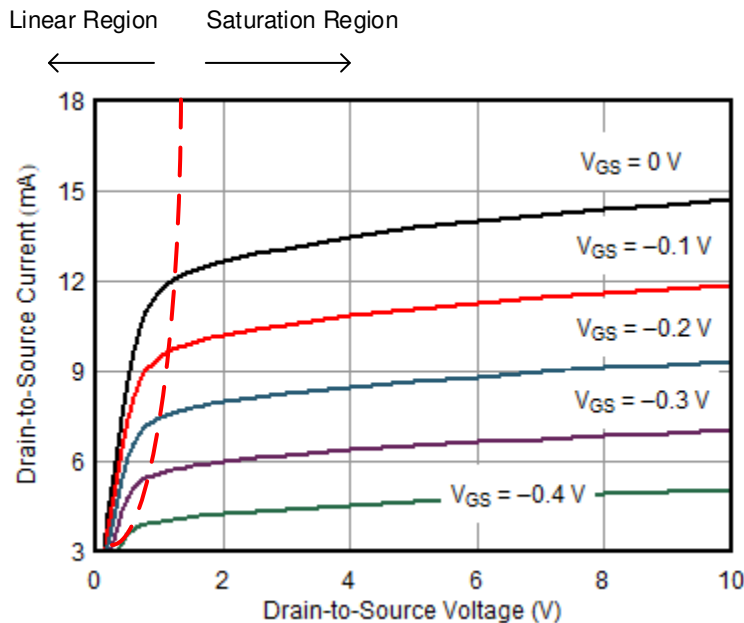

图 8-1.  $V_{DS}$  vs  $I_{DS}$
- For  $V_{GS} > V_{GSC}$ : Two modes of operation can exist depending on  $V_{DS}$ . When  $V_{DS}$  is less than the linear (saturation) region threshold (see 图 8-1), the device operates in the linear region, meaning that the device behaves as a resistor connected from drain-to-source with minimal variation from any changes in  $V_{GS}$ . When  $V_{DS}$  is greater than the linear (saturation) region threshold,  $I_{DS}$  has a strong dependence on  $V_{GS}$ , where the relationship is described by the parameter  $g_m$ .